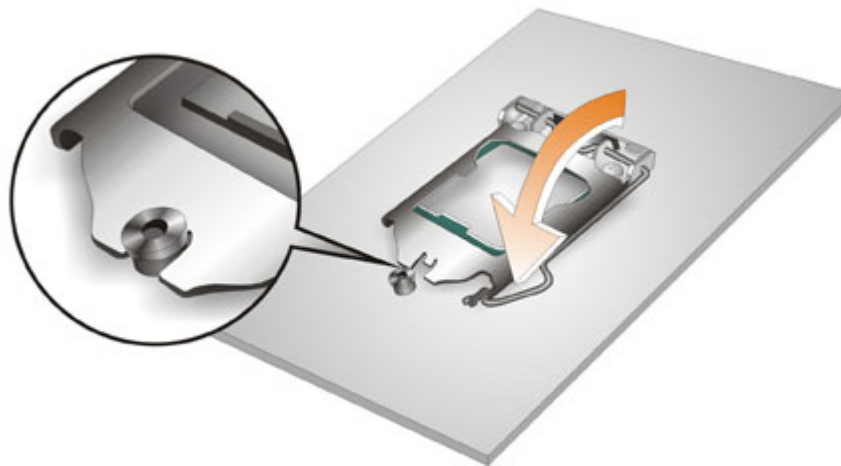

Figure 4-4: Close the Socket LGA1155
**Step 8: Close the CPU socket.** Close the load plate and pull the load lever back a little to have the load plate be able to secure to the knob. Engage the load lever by pushing it back to its original position (**Figure 4-4**). There will be some resistance, but will not require extreme pressure.